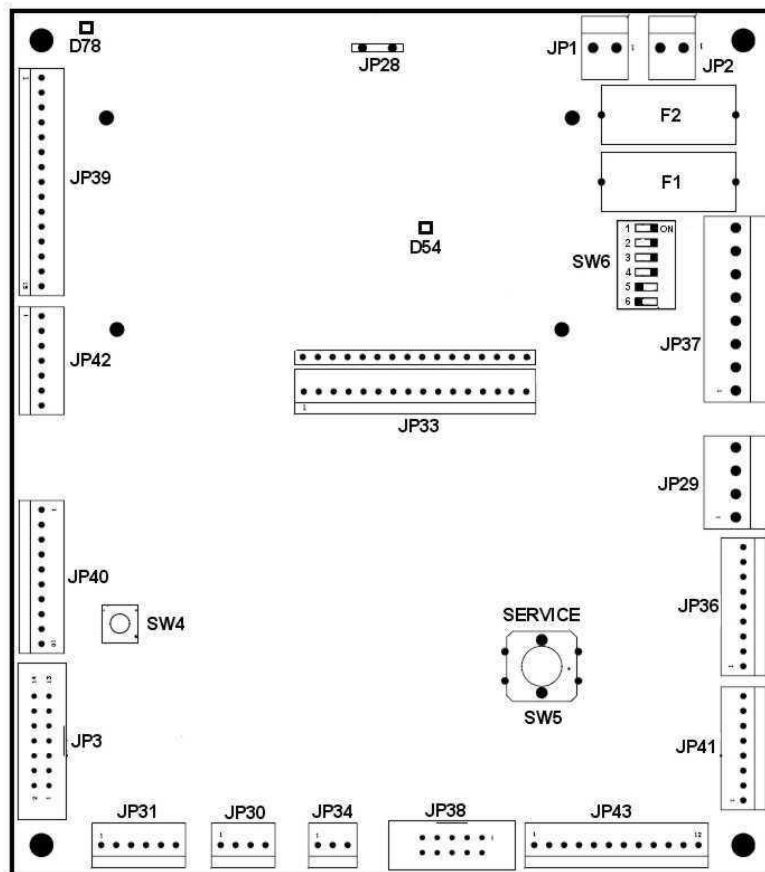

Figure 6.1
- If an MDB unit is used, set SW6 on the electronic board with switches 1,2,3,4 on ON and 5,6 on OFF, as shown in Figure 6.1 (standard setting). If an EXECUTIVE unit is used, set SW6 with switches 1,2,3,4 on OFF and 5,6 on ON.